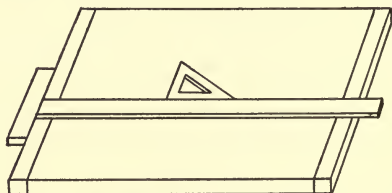

FIG. 47. THE T SQUARE AND TRIANGLE ON THE DRAWING BOARD
The T square is laid with the *head*, that is the short thick piece, against the left hand edge of the drawing board which brings the *blade*, that is the long thin piece flat on and across the board. The triangle is placed against the straight edge. The triangle is laid on the board with one of its edges against the blade of the T square as shown in Fig. 47.
(2) Take a sheet of white paper exactly $5\frac{1}{8}$ inches wide and 10 inches long and draw two diagonal lines from corner to corner so that they will cross each other, then draw a vertical line through the middle and a horizontal line near the bottom. The diagonal and horizontal lines will be 30 degrees apart.
(3) By laying a 30 degree triangle on your T square and drawing a line along the 30 degree side of it as
shown in Fig. 47; and (4) by laying off 30 degree lines with a protractor.